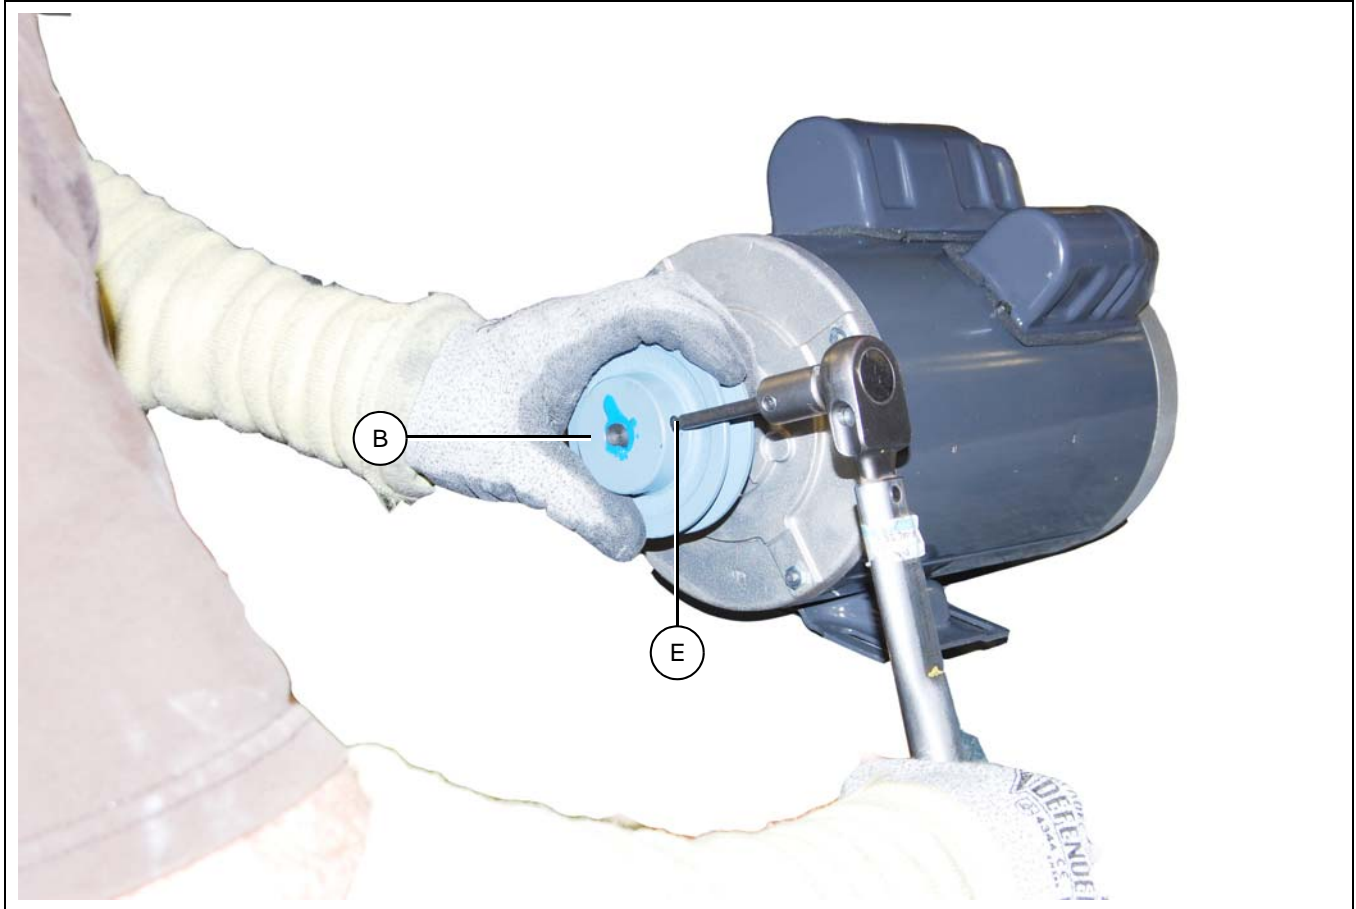

Figure 8J
3. Insert the pulley (B) onto the motor shaft (D) and key (C).
5. Tighten both set screws (E) on the pulley to 120 in.-lbs. of torque. *(See Figure 8J.)*